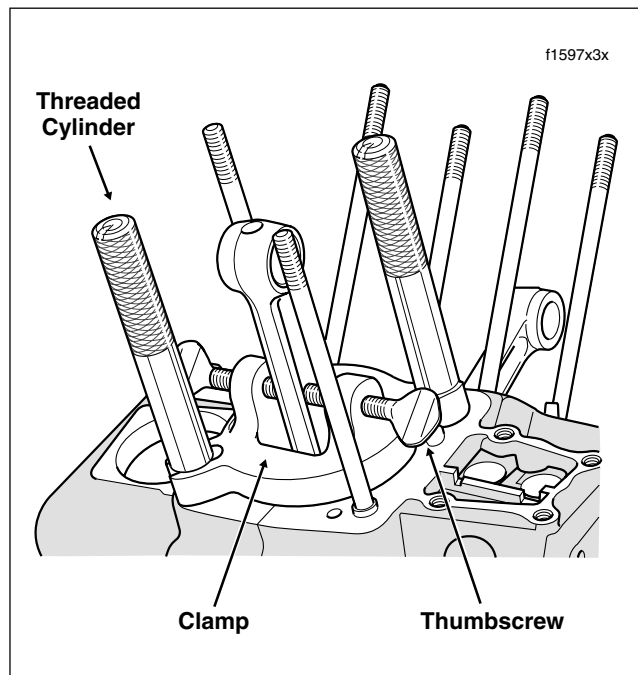

Figure 3-92. Install Connecting Rod Clamping Tool
- Slide clamp over connecting rod so that slots engage cylinder head studs. See Figure 3-92. Exercise caution to avoid scratching or bending studs.